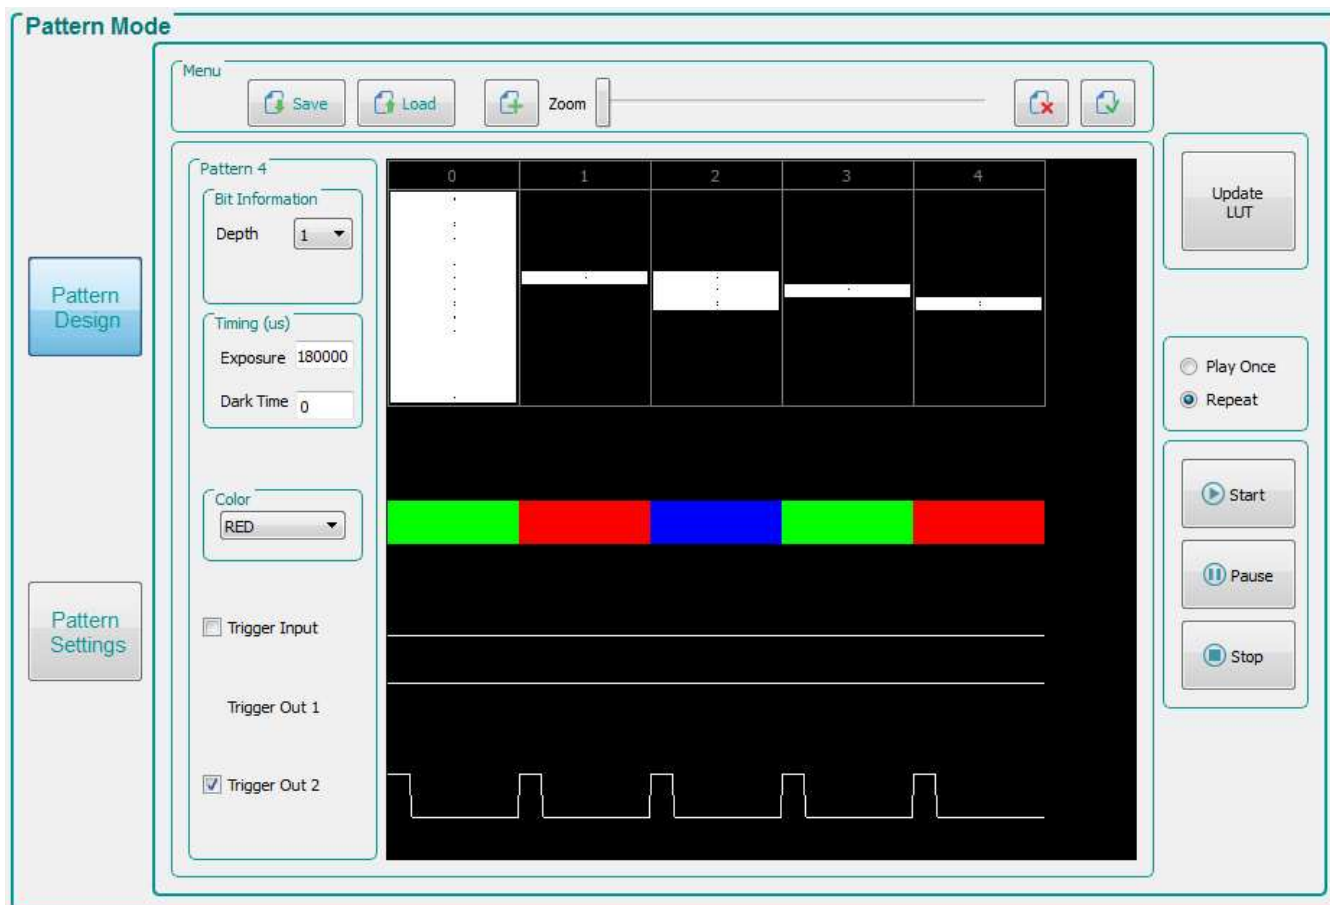

Figure 3-10. DMD Block Load Pattern Sequence
4. The pattern design should look similar to Figure 3-10.